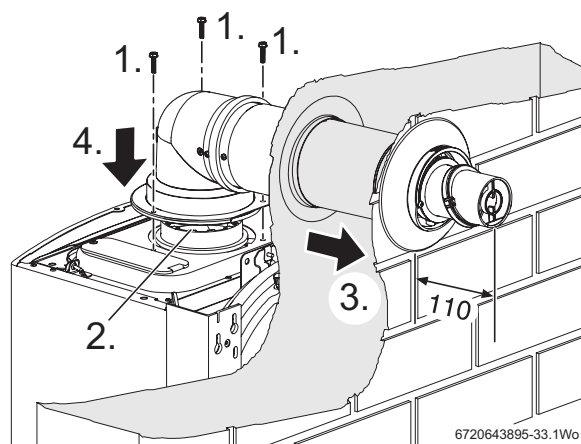

Fig. 14 Telescopic flue installation
1. Referring to figure 14, remove the three screws securing the flue outlet to the boiler.